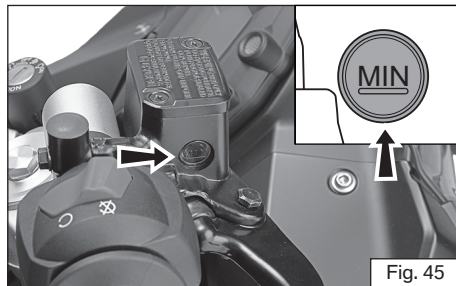
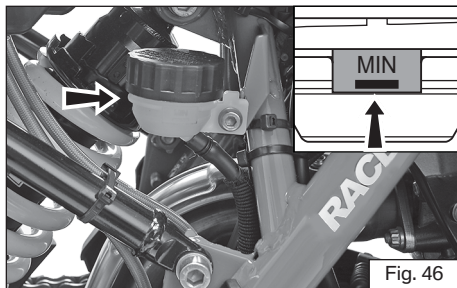

Fig. 45
Fig. 46
- ♦ Inspect the oil level of both front and rear brake fluid reservoirs (ref. Fig. 45 & Fig. 46).